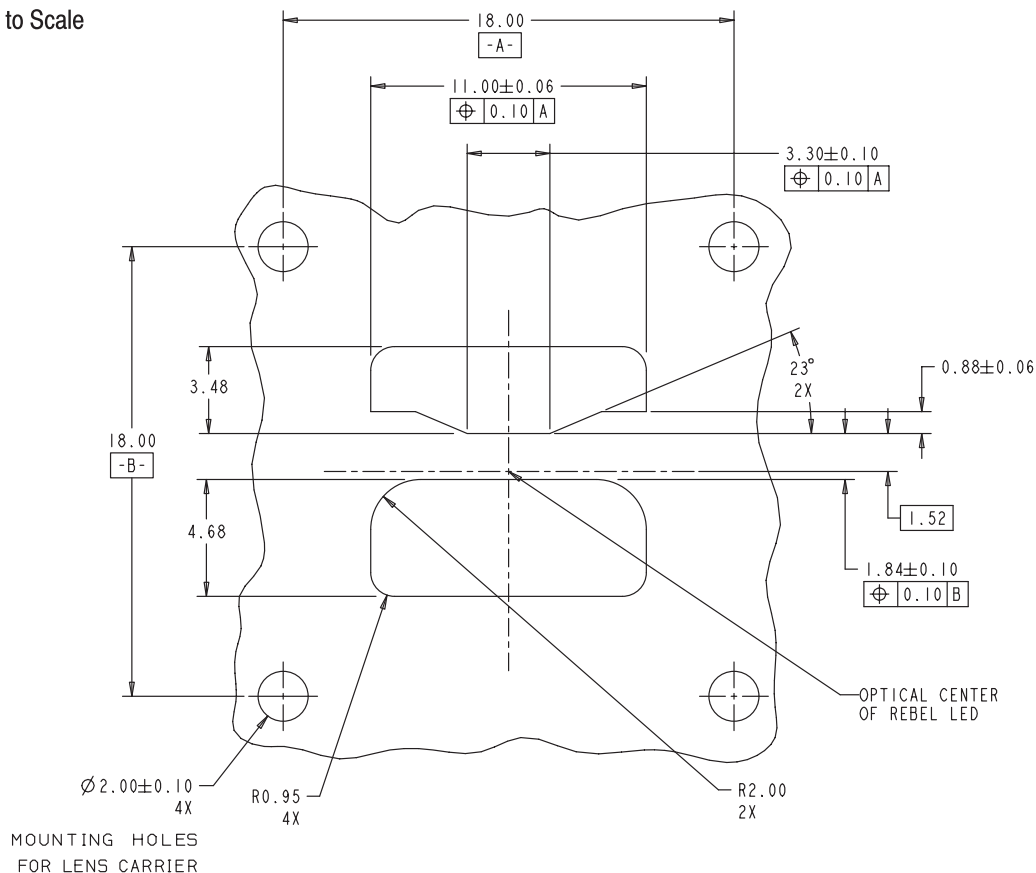

Figure 2
- Updated cutout in Figure 2
The heat sink must be cut using the dimensions provided in Figure 2 (the cutout is also provided on the customer drawing for the LED holder). If using the lens carrier, the mounting holes must be cut for mounting the lens carrier.